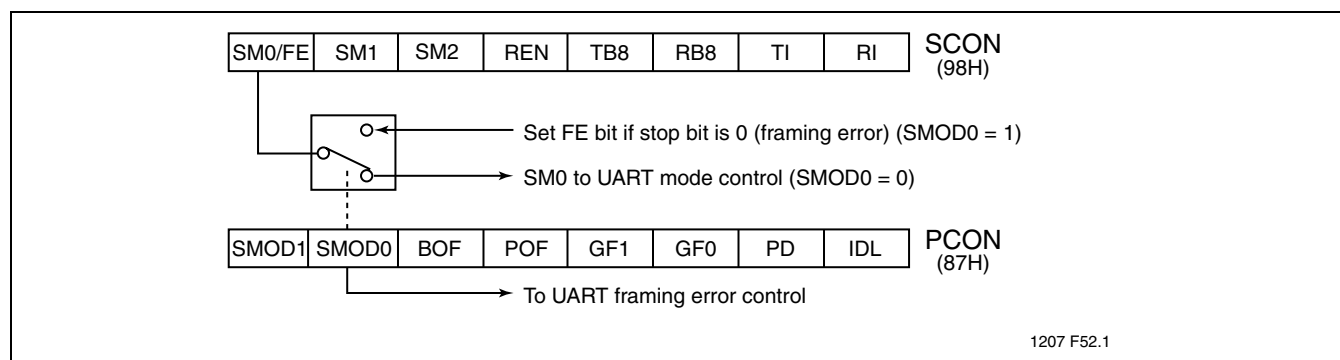
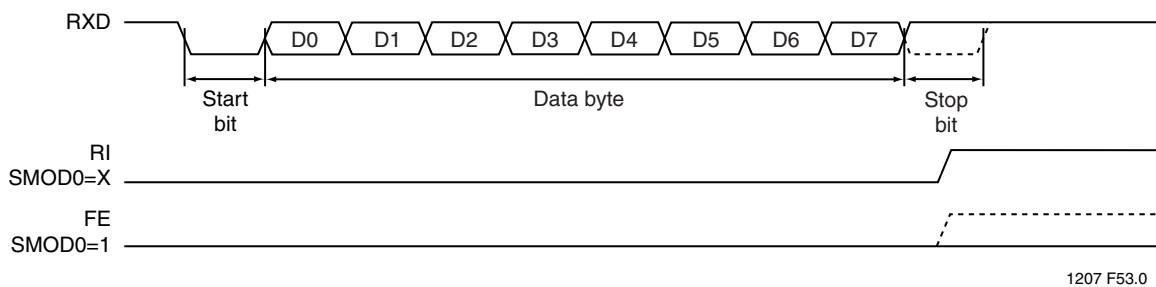
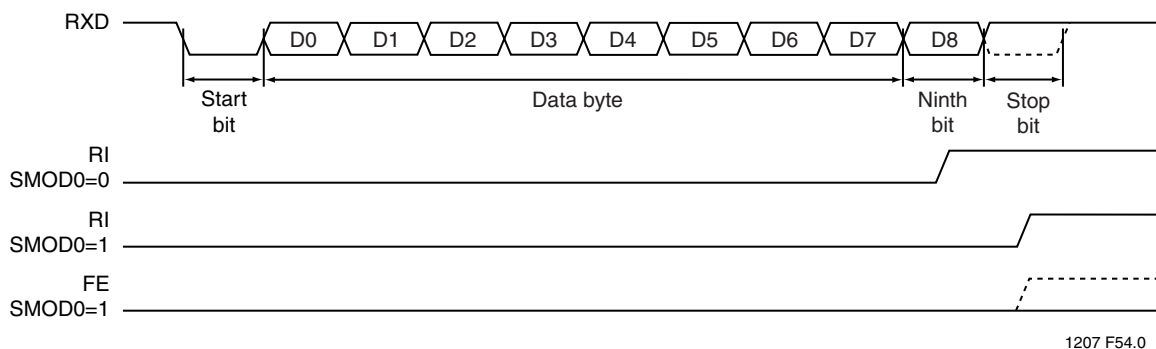

FIGURE 6-1: FRAMING ERROR BLOCK DIAGRAM
FIGURE 6-2: UART TIMINGS IN MODE 1
FIGURE 6-3: UART TIMINGS IN MODES 2 AND 3
Framing Error Detection is selected by going to the PCON register and changing SMOD0 = 1 (see Figure 6-1). If a stop bit is missing, the Framing Error bit (FE) will be set. Software may examine the FE bit after each reception to check for data errors. After the FE bit has been set, it can only be cleared by software. Valid stop bits do not clear FE. When FE is enabled, RI rises on the stop bit, instead of the last data bit (see Figure 6-2 and Figure 6-3).